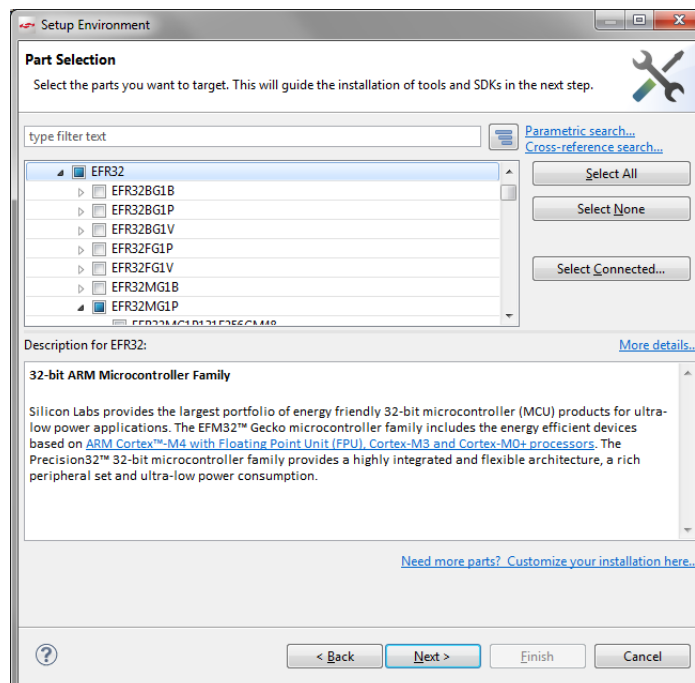

Figure 7. Part Selection Dialog
7. A part selection dialog is displayed (Figure 7). Your connected part should be selected. Click **[Next >]**.